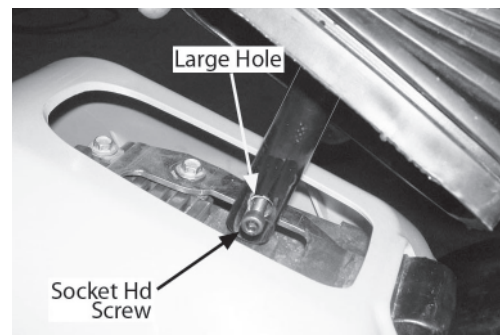

Figure 3-3
- Note that one of the holes in the steering stub shaft tube is larger than the hole on the other side of the tube. Insert the socket head screw through the larger hole and fully through the lower steering shaft and stub shaft tube, and secure with the flange lock nut. Refer to Figure 3-3.